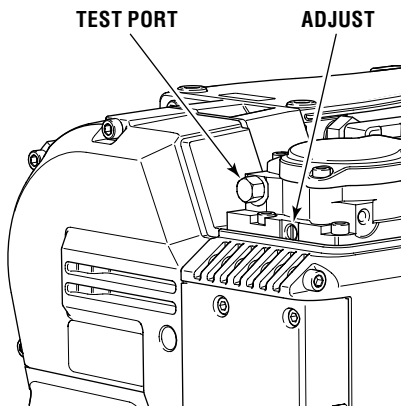

Figure 4-8. Air pressure adjustment.
- 4) Adjust the air pressure if necessary by turning the screw as shown in figure 4-8. If the pressure cannot be set to the correct setting, rebuild kits are available. See [www.proheat.com](http://www.proheat.com) for the latest parts manual SL9209 for more information.